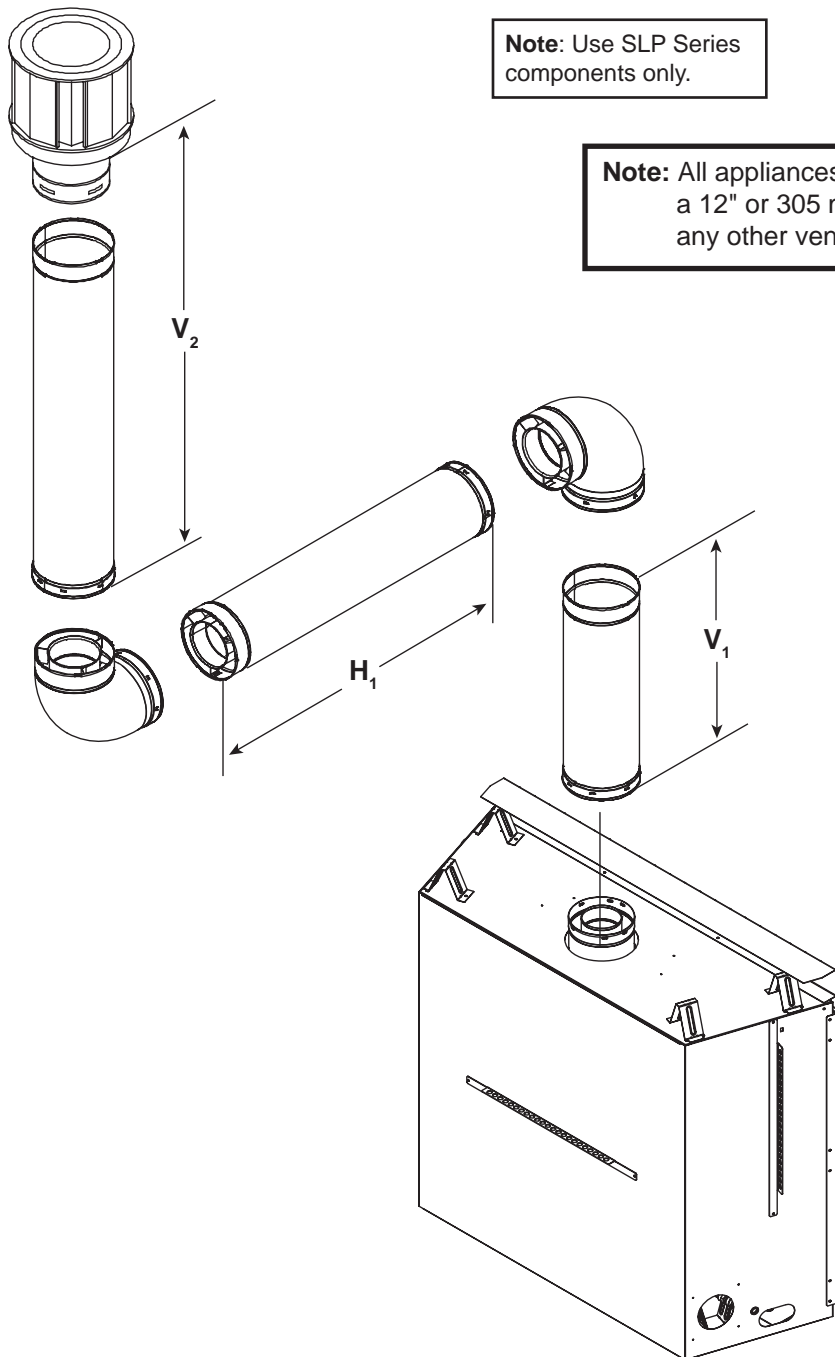

**Figure 7.7 Restrictor with Small Cut-Out**
3. Replace existing restrictor with small cut-out restrictor in manual bag for installations with more than 2 meters of vertical piping. See Figure 7.7.